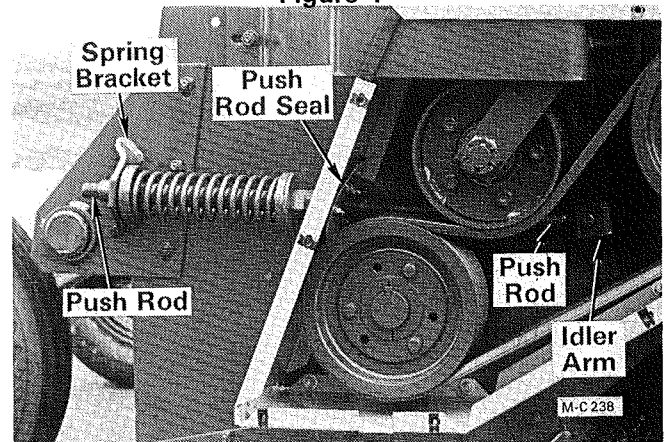

Figure 2
4. Remove the idler push rod seal, see Figure 2. Disconnect the idler push rod at the idler arm.
13. Lower the idler pulley onto the belts. Install the idler push rod and spring assembly into the idler spring bracket, see Figure 2.